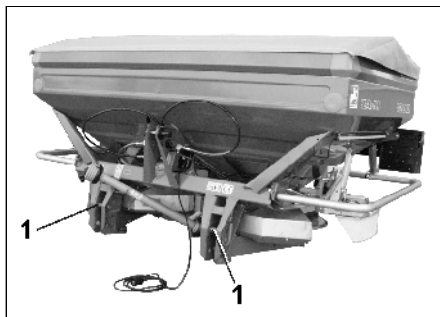

Fig. 20
- Fix lower link of tractor on lower link pin (cat. II) (Fig. 20/1) and secure by using a clip pin.